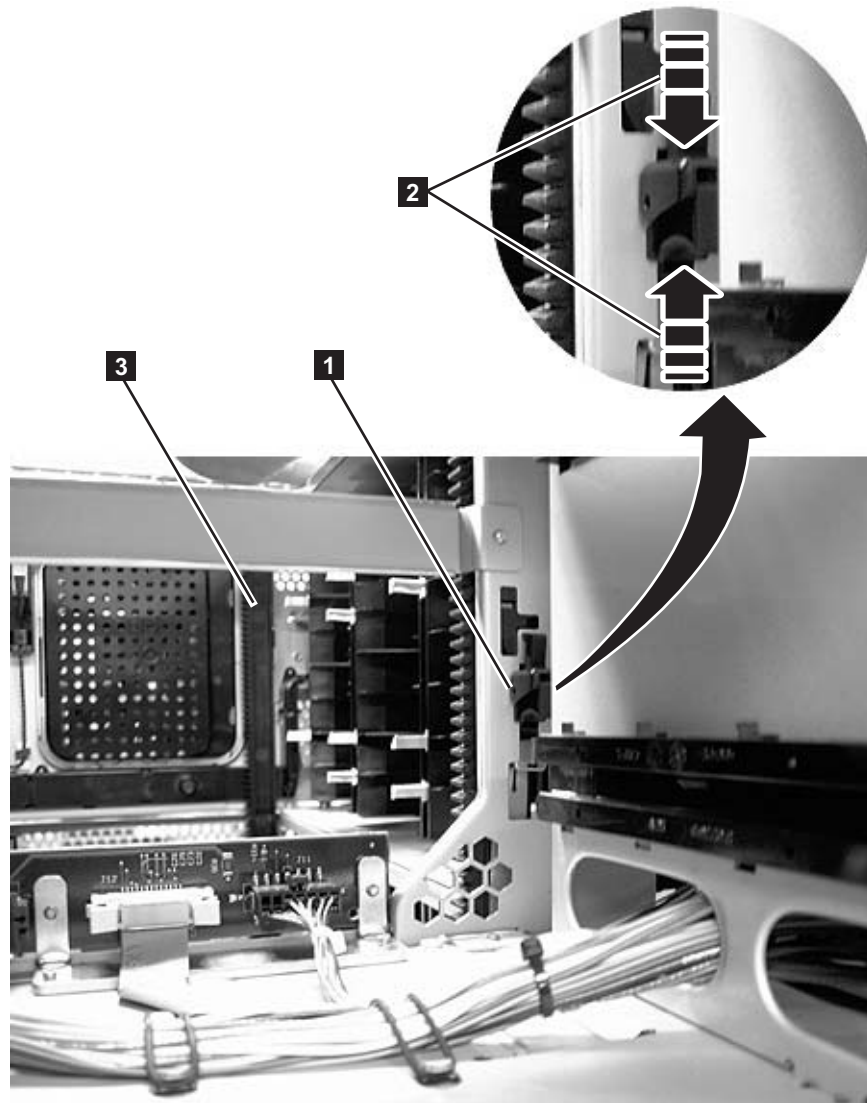

Figure 8-10. Gear rack
In order for the picker to move from one unit to the next in a multi-module library, the front (**3** in Figure 8-10) and rear (**1** in Figure 8-10) gear racks in the control module must be properly aligned with the gear racks in the expansion module.
Verify that the front (**3** in Figure 8-10) and rear (**1** in Figure 8-10) gear racks are properly aligned and positioned.
- In a control module, verify that the gear racks are in the down position. Pinch the gear rack locking mechanism (**2** in Figure 8-10 on page 8-15) and push the gear rack down. Ensure that the lock is not engaged in the hole in the frame.
- Verify that the gear racks are in the down position. Pinch the gear rack locking mechanism (**2** in Figure 8-10 on page 8-15) and push the gear rack down. Ensure that the lock is not engaged in the hole in the frame.
1. Slightly push up and pinch the gear rack locking mechanism (**1** in Figure 8-10 on page 8-15) to unlock the gear rack in the control module.
2. While pinching the gear rack locking mechanism (**2** in Figure 8-10 on page 8-15), push the gear rack down until it aligns with the gear rack in the expansion module, then release your hold on the locking mechanism.